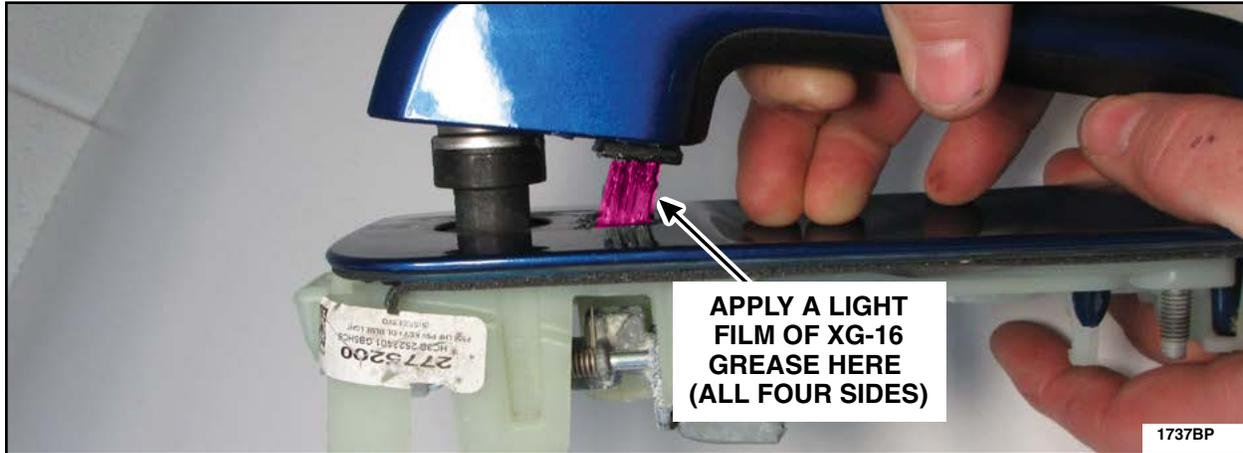

FIGURE 17
20. Using a brush, apply a light film of Motorcraft® XG-16 grease to all four sides of the exterior door handle plunger and to the mechanisms in the areas shown in Figures 17 and 18.